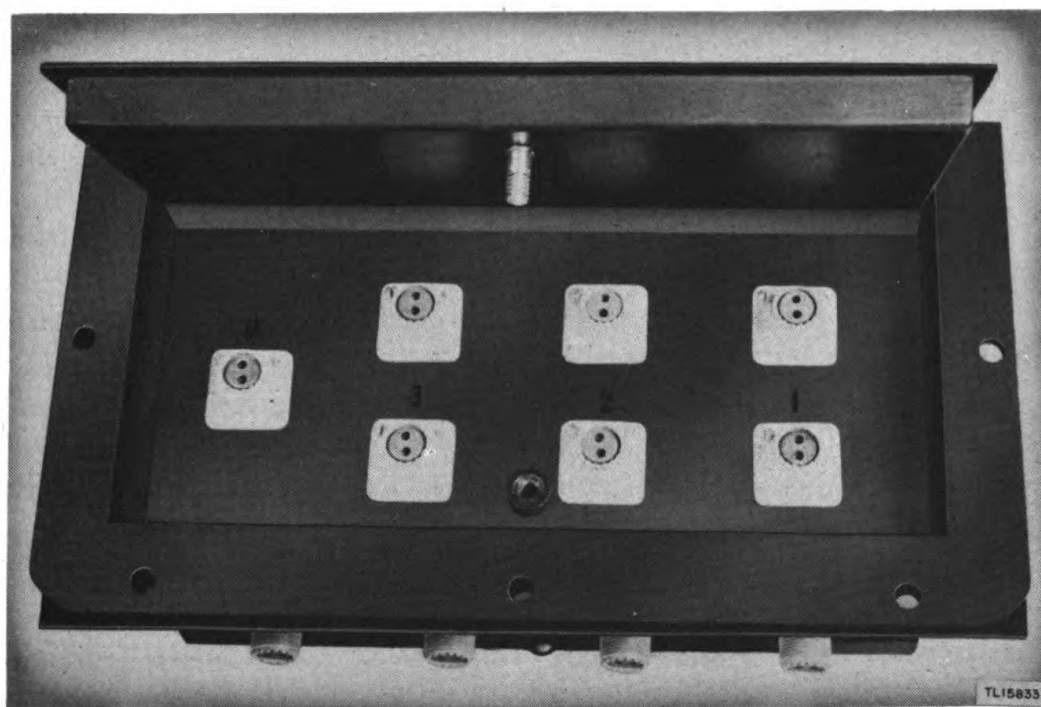

Figure 8. Control Box BC-1278-A, rear view.
7. CONNECTION OF CABLES TO CONTROL BOX BC-1278-A (fig. 8).